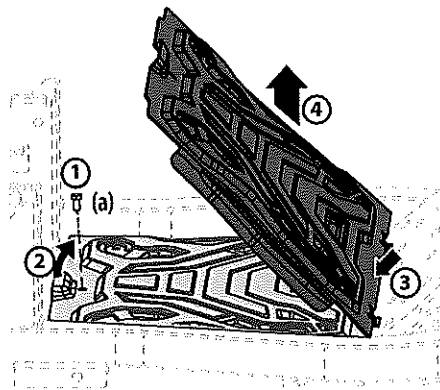

Figure 33
1. Using the multi-tool (if equipped) or a 1/2" socket, remove the hex screw (a) that secures the floor panel in place. See 1 in Figure 33.
2. Carefully lift the rear of the floor panel. See 2 in Figure 33.
3. Slide the floor panel rearward to free the front of the floor panel. See 3 in Figure 33.
4. Lift it off the tractor. See 4 in Figure 33.